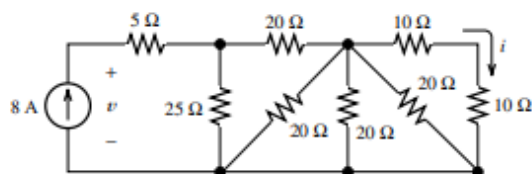

Figure P2.25
***P2.25.** Find the values of v and i in Figure P2.25.